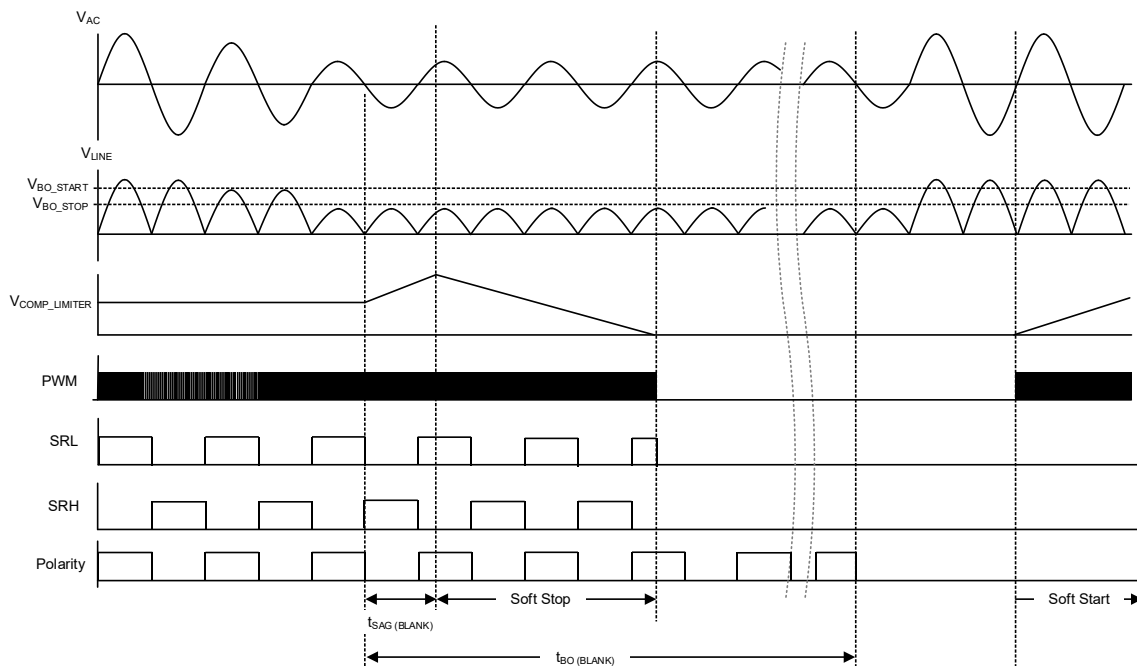

Figure 22. Brownout (BO) and Line sag
Figure 22 shows the IC feature set includes line voltage Brownout (BO) and Line sag (SAG) detection.